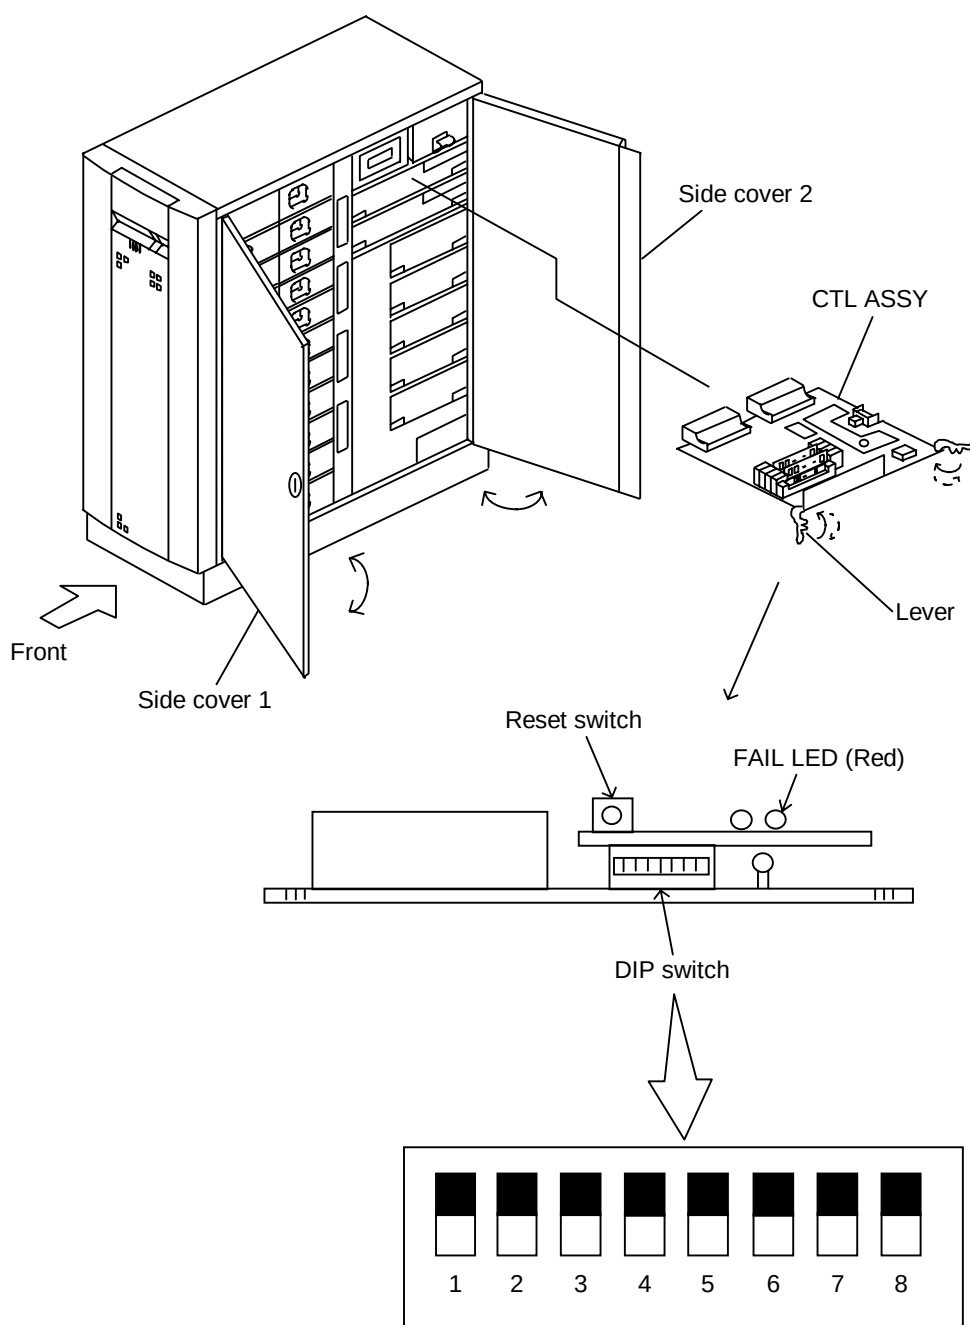

Figure 8.1.1 Replacing CTL ASSY
8. Replacing CTL ASSY (See Figure 8.1.1.)
(1) Removing procedure
- ① First open the side cover 1 and then the side cover 2. (See CK-REP0160.)
- ② Disconnect the cables (RS232C).
- ③ Confirm the blocked CTL ASSY (with the FAIL LED turned on). (See Figure 8.1.1.)
- ④ Take out the CTL ASSY by pulling both levers on left and right side at the same time toward the directions shown by allows (···→)
- ⑤ Remove the CACHE ASSY. If the LAN ASSY is installed, also remove it.
(2) Installing procedure